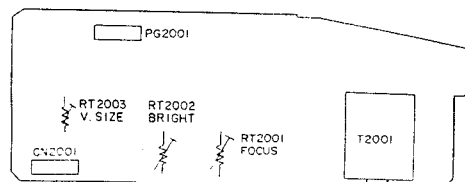

Fig. 4-72 Electrical Adjustment (EVF) Circuit Board (Parts Side)
### (3) EVF Vertical Size Adjustment (Fig. 4-72)
### (4) EVF Brightness Adjustment (Fig. 4-72)
### (5) EVF Focus Adjustment (Fig. 4-72)